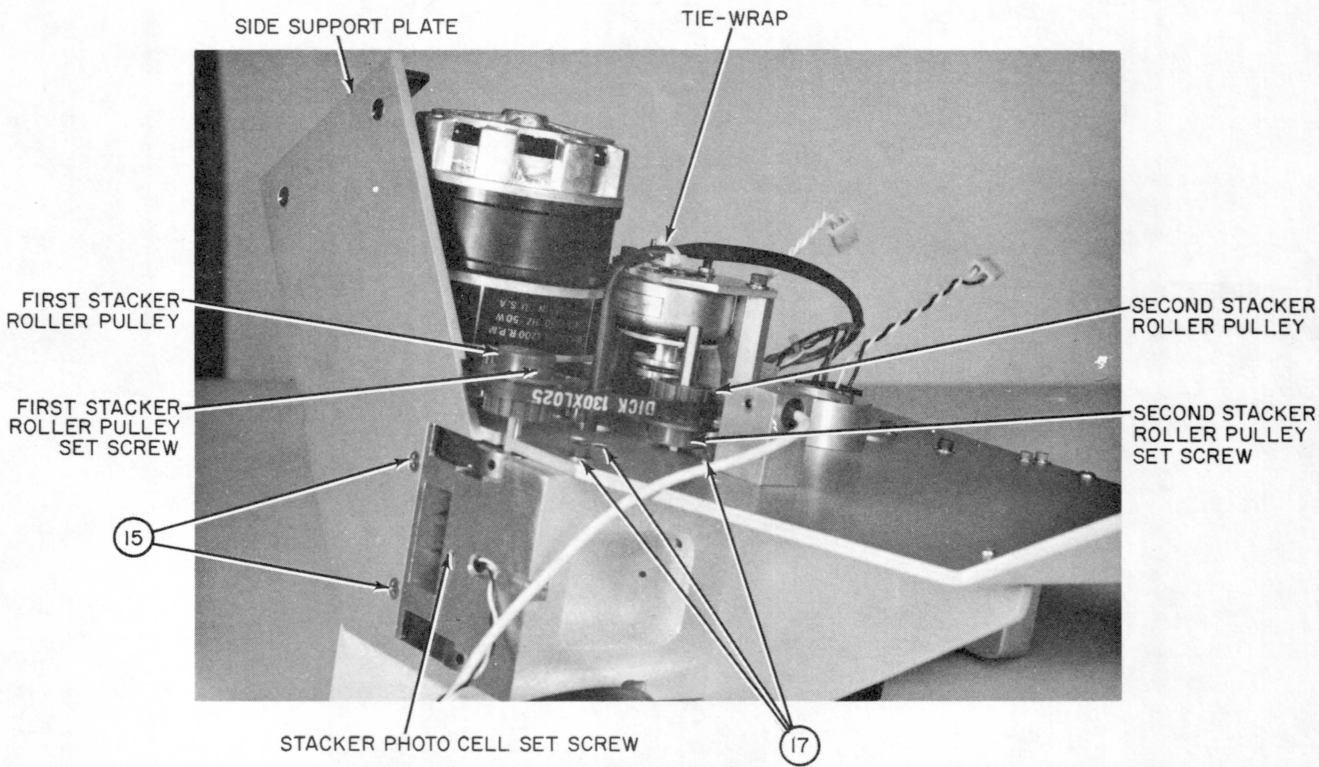

Figure 35. Bottom View Main Drive Motor Assembly
3. Remove two 8 x 32 Phillips flat head screws (15) holding side support plate, figure 35.
8. Using a 3/32 Allen wrench, LOOSEN the set screws in the two stacker nylon pulleys, figure 35. Remove pulleys.
9. Cut nylon tie-wrap on solenoid mounting plate, holding light station cable, figure 35.
10. Using a 9/64 Allen wrench, remove three 8 x 32 socket head screws (17) holding stacker casting, figure 35. Lay stacker casting to one side.
7. When replacing the nylon pulleys, make sure set screw is on the flat side of the shaft, and that the pulley flange is oriented correctly, figure 35.
8. Re-install stacker casting onto main mounting plate. To insure pressure between the stacker and picker rollers, squeeze the stacker casting and picker casting together with hand pressure when tightening the three 8 x 32 socket head screws (17) holding the stacker casting, Figure 35. After tightening, check pinch between rollers. The steel roller should cause a slight depression onto the rubber rollers.
2. Remove nylon tie-wrap from solenoid mounting plate, figure 35.
2. Using a 1/16 Allen screwdriver, LOOSEN set screw in stacker casting holding stacker photocell, figure 35.
3. Remove photocell from casting, figure 35, and tag black and white wires from photocell.
4. Replace photocell, align photocell flush with stacker casting faceplate, and tighten photocell set screw, figure 35. Replace leads.